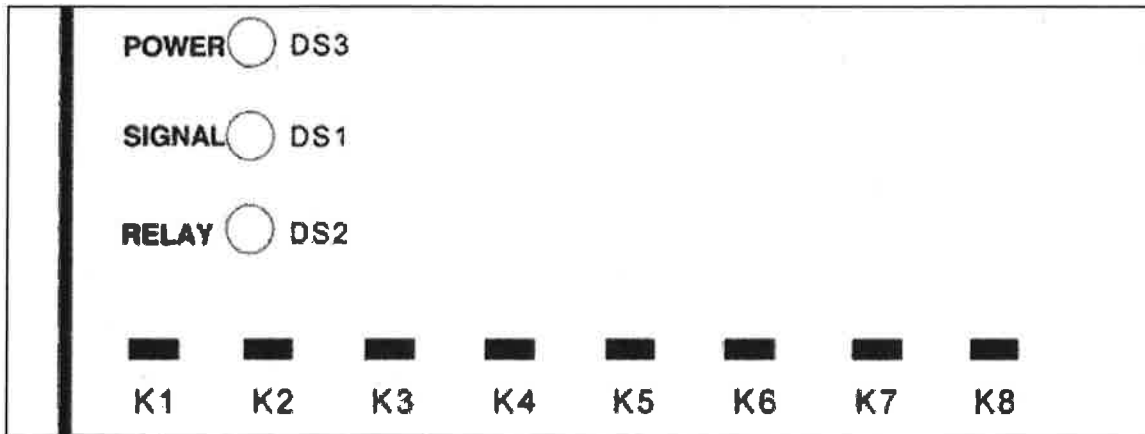

Figure 15: 22R08A LED Status Indicators
2. Verify that the POWER (DS3) LED turns 'ON'. Refer to Figure 15.